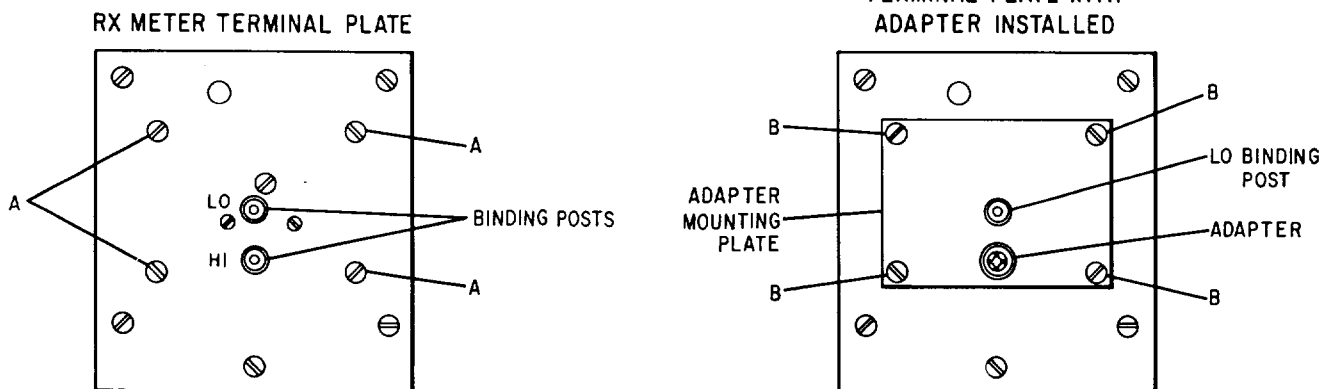

Figure 2-1. Installation of Coax Adapter Kit
- b. Remove and put aside the four screws marked (A) in Figure 2-1.